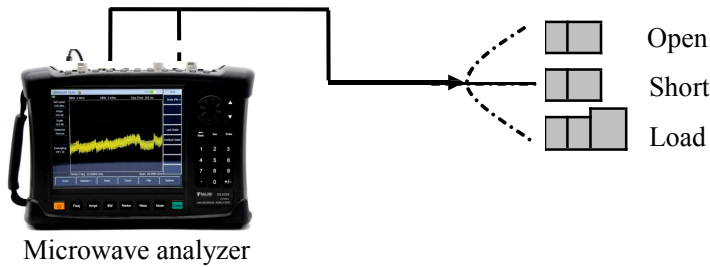

Figure 4-15 Test block diagram of effective direction, effective source matching and reflection tracking
Test block diagram is shown in Figure 4-15:
- 3) Press **【Calibrate】** →[Cal Kit] to select the correct calibration kit, then press [M Cal]→[One Port@S11], as shown in Figure 4-15, to complete the measurement of standard parts such as OPEN, LOAD and SHORT, and finally press [Done] to complete the calibration;
- 3) Press **【Calibrate】** →[Cal Kit] to select the correct calibration kit, then press [M Cal]→[Resp. & Iso S12]→[Iso], as shown in Figure 4-15, connect the anode-anode or cathode-cathode test cable to Port 1 or Port 2, connect the LOAD at the end of the cable to the other port, and finally press [Iso] to complete isolation calibration;
- 3) Press **【Calibrate】** →[Cal Kit] to select the correct calibration kit, then press [M Cal]→[Resp. & Iso S12], as shown in Figure 4-15, use the test cable to connect Port 1 with Port 2, and finally press [THRU] to complete THRU measurement;
- 7) Press **【Calibrate】** →[M Cal]→[Resp. & Iso S21], as shown in Figure 4-15, use the test cable to connect Port 1 with Port 2, and finally press [THRU] to complete THRU measurement;